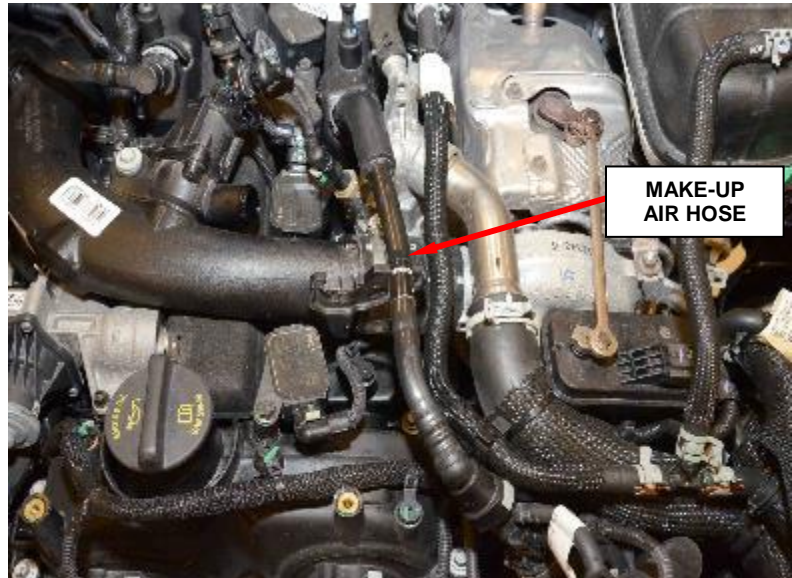

Figure 7 – Make-Up Air Hose
9. Remove make-up air hose from clean air duct side only, position the hose to the side (Figure 7).